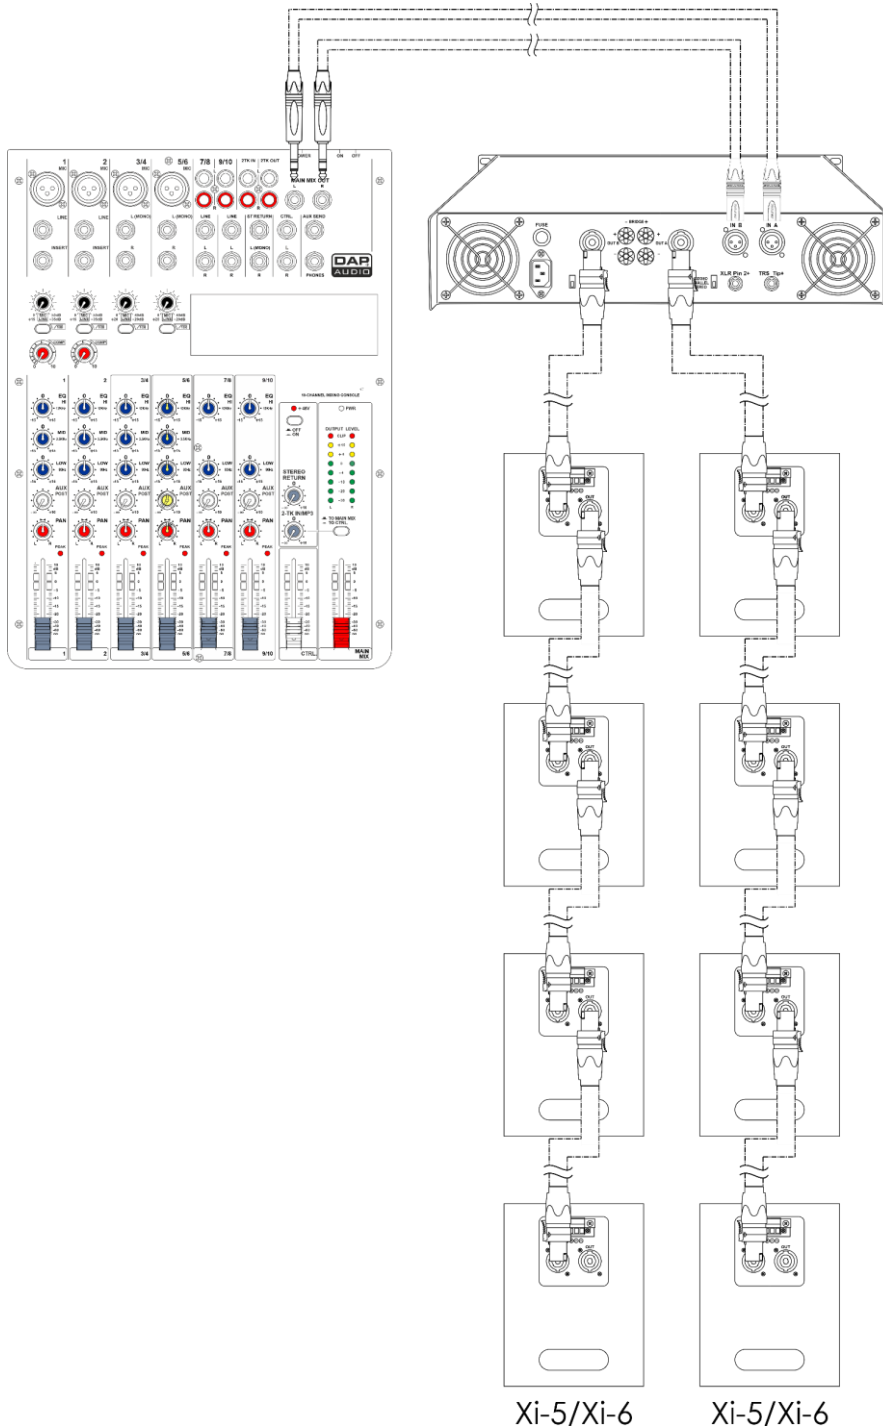

Fig. 04
- With Speakon cables. See Fig. 04 and Fig. 05 on pages 9–10 for more information.